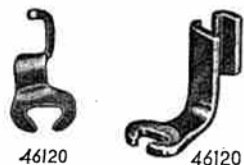

Fig. 16
17. Sewing on buttons (Fig. 16 and 17)